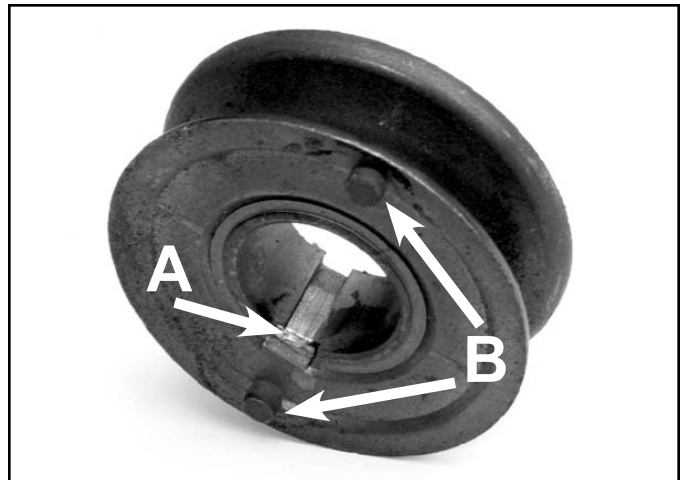

Fig 192
9. Inspect the pulley. One end of the keyway is blocked off. If that is broken, the pulley will bounce up and down during use and make a rattling noise (Fig. 192). There are two bumps on the outside of the pulley that are intended to engage two holes in the flywheel. If this wall is broken out or the bumps on the pulley are damaged, the pulley must be replaced. Usually this is caused by an error in assembly. Refer to "Idler Arm System Assembly (Recycler/Rear Bagger)" on page 6-25 for instructions to avoid this.